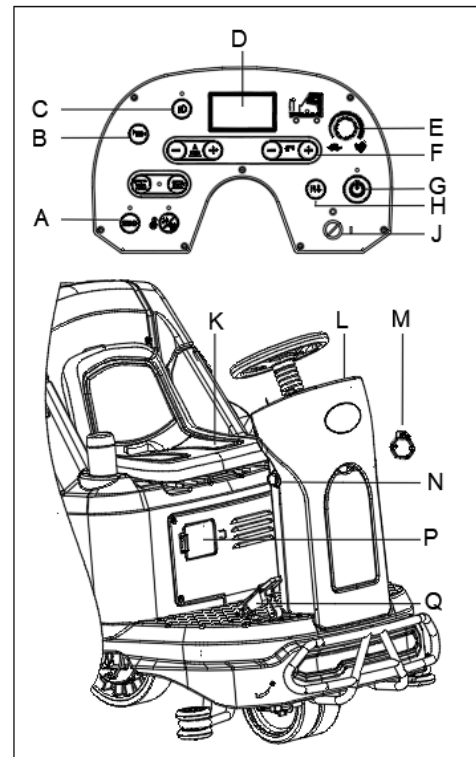

Figure 13
2. Sit on the seat (K, Figure 13), insert the Ignition key (J, Figure 13) and turn it to “I”. Check batteries status from display screen. If necessary to charge the batteries (see the procedure in Maintenance chapter).
The forward/reverse direction can be controlled with the switch (H, Figure 13). The speed can be adjusted with the adjuster (E, Figure 13).
4. Press One-Start button (G, Figure 13) to start the machine, the squeegee and brushes are lowered to the floor automatically, and the vacuum motor begins to work.
5. Press the solution flow control buttons (F, Figure 13) as necessary, depending on the type of cleaning to be performed.
6. Depress the accelerator pedal (Q, Figure 13), and start cleaning.
7. You can charge your phone or pad through USB charging port (M, Figure 13) when the Ignition key (J, Figure 13) is turned to “I”.
8. Press the horn button (B, Figure 13) to warn people when necessary.
9. If necessary, press the emergency button (N, Figure 13) for machine emergency stop.
10. If necessary, press the front lights button (C, Figure 13) for dark areas or to warn pedestrians.
11. If necessary, adjust the seat (K, Figure 13) by turning right the handle on the right of seat, then slide the seat to proper position.
The brush motor, vacuum motor, drive motor and control circuit are protected by overload protector (P, Figure 13). When an overload protector trips, do not reset it immediately without finding out the root cause, and make sure the motor has cooled before reset.
12. Release the accelerator pedal (Q, Figure 13), the machine stops running.
13. Press One-Start button (G, Figure 13) to stop brushes and vacuum motor. The brushes and squeegee are lifted from the floor automatically. The vacuum system will turn off after a few seconds.